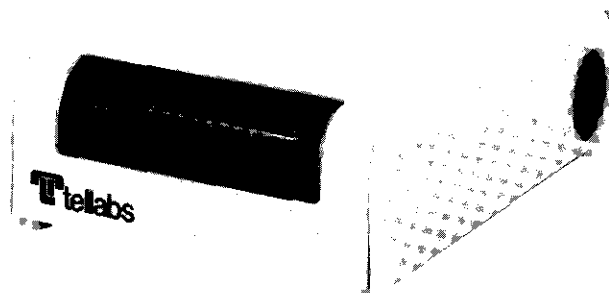

figure 1. 263A DST Assembly
1.01 The 263A Data Station Termination (DST) Assembly (figure 1) is a specially equipped and pre-wired Tellabs 1912 Apparatus Case designed to accommodate any one of Tellabs' family of Type 10 DST modules. The 263A Assembly provides enclosed desktop or wall mounting, external connections, and dc power for the associated DST module. The module, in turn, interfaces a 4wire transmission facility with either a 2wire or a 4wire data modem, providing level coordination between the facility and the modem, amplitude equalization in one or both channels, impedance matching at the facility-side ports, and locally or remotely activated loopback. The 263A Assembly can be used in virtually any application where a single modem communicates with other modems or a centrally located computer over voice-grade facilities.